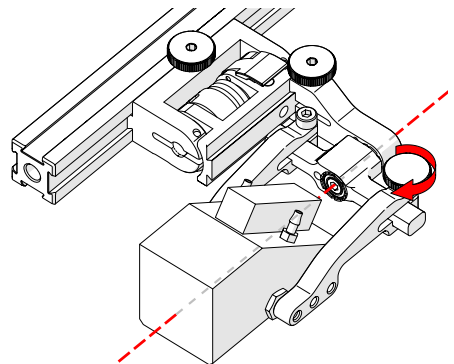

Fig. 50 - Pinch wedge with arm
10. Tighten the probe holder arm adjustment knob (Fig. 50).